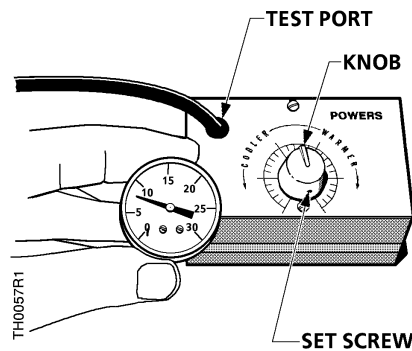

Figure 2. Test Port and Gauge used for Calibration.
3. Loosen (do not remove) the return line test port screw. Slip the rubber line over test port and connect to test gauge (Figure 2).